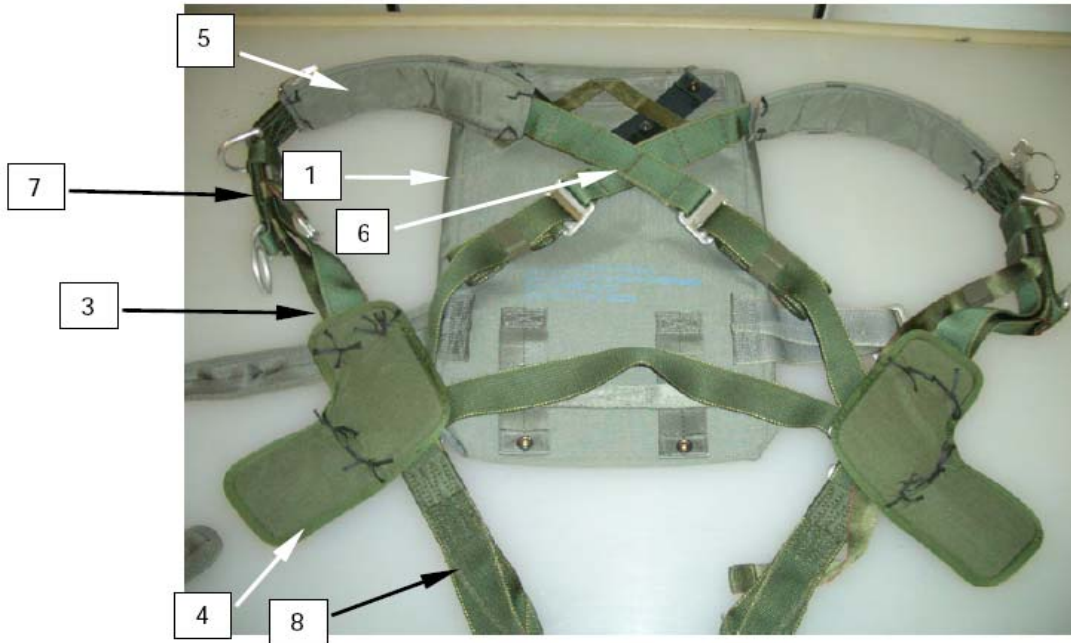

Figure 51. Harness Assembly Positioned on the Main Pack Tray.
2. Place the harness assembly (Figure 51, Item 3) on the pack tray (Figure 51, Item 1) with the ejector (Figure 51, Item 4) and shoulder pads (Figure 51, Item 5) facing up. Ensure the diagonal back straps intersect (Figure 51, Item 6) in the center of the pack tray, and ensure there are no twists in the upper main lift web (Figure 51, Item 7) and lower saddle assembly (Figure 51, Item 8).